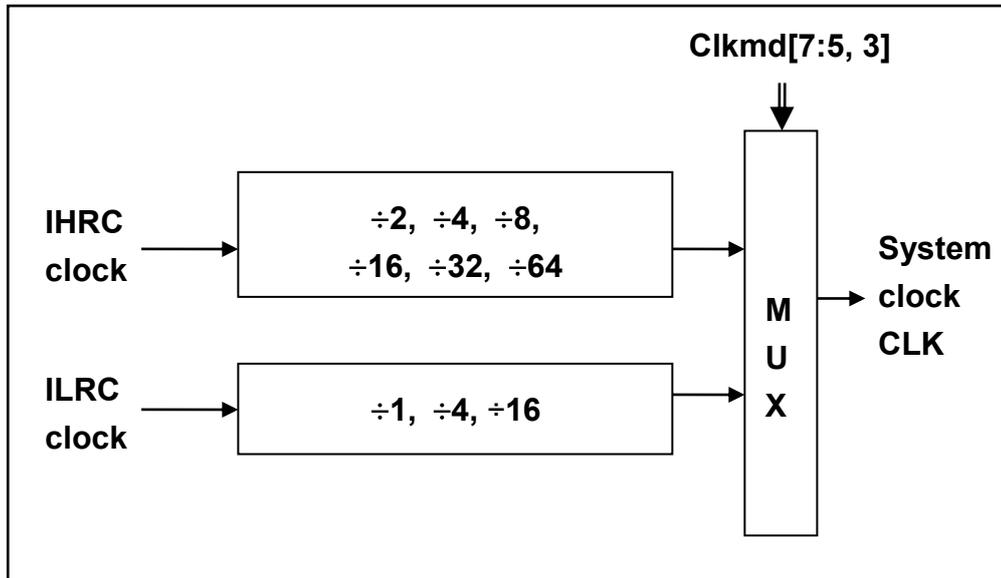

Fig.2: Options of System Clock
The clock source of system clock comes from IHRC and ILRC, the hardware diagram of system clock in the PMB182(B) is shown as Fig.2.